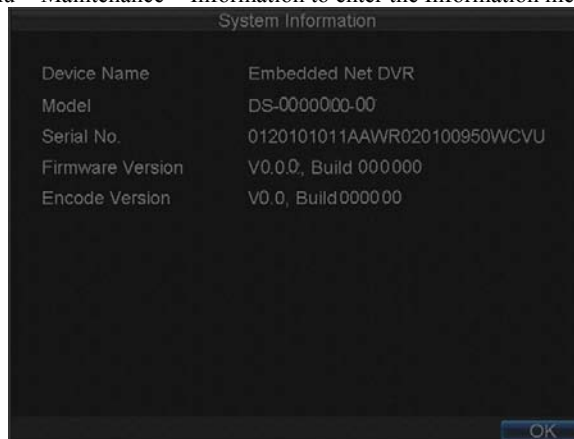

Figure 14. System Information
1. Click Menu > Maintenance > Information to enter the Information menu, shown in Figure 14.